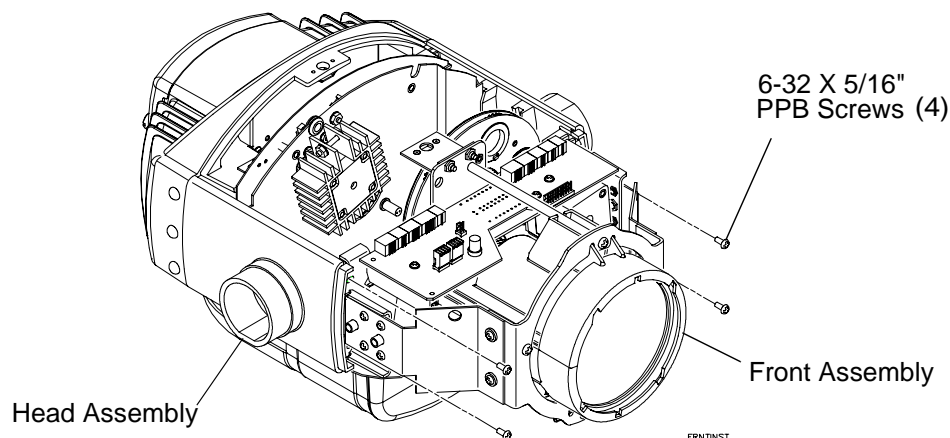

Figure 2-8: VL6B/VL6C Luminaire Front Assembly Replacement
- Step 6. At front of bulkhead, using #2 Phillips long handle screwdriver, remove four 6-32 X 5/16" PPB screws, and pull front assembly partially out of head assembly. **Figure 2-8.**